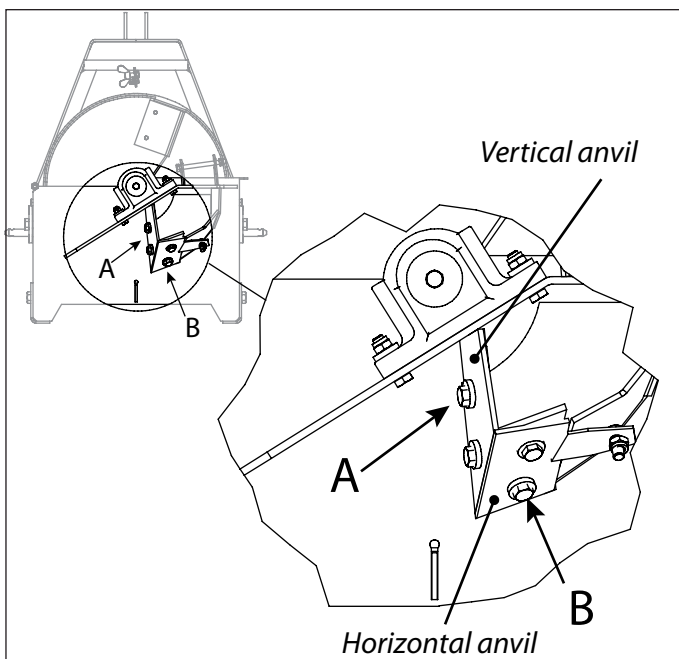

Fig. 16. Anvil fastening bolts
The chipper features both a vertical and horizontal anvil. To remove the anvils, open the fastening bolts (A) and (B) (M12). The horizontal anvil fastening bolt (B) is located below the feed opening. Fig. 16.